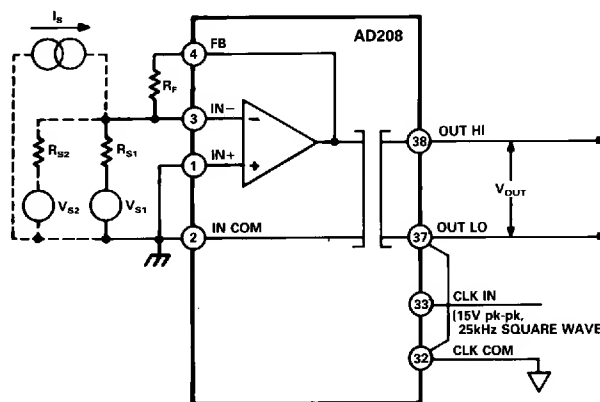

Figure 29. Summing or Current Input Configuration
**Summing or Current Input Configuration.** Figure 29 shows how the AD208 can accommodate current inputs or sum currents or voltages.
The circuit of Figure 29 can also be used when the input signal is larger than the  $\pm 5$  V input range of the isolator. For example, suppose that in Figure 29 only  $V_{S1}$ ,  $R_{S1}$  and  $R_F$  are connected to the feedback, input and common terminals as shown by the solid lines in Figure 29. Now, a  $V_{S1}$  with a  $\pm 50$  V span can be accommodated with  $R_F = 20$  k $\Omega$  and  $R_{S1} = 200$  k $\Omega$ .